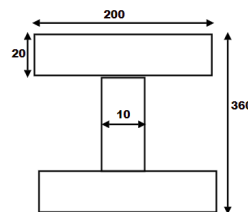

Figure 3
- (b) A simply supported beam of I section carries a UDL of 40 kN/m on entire span of beam of length 3 m. If I section is having dimensions as shown in Figure 3. Determine the maximum stress produced due to bending. [5M]